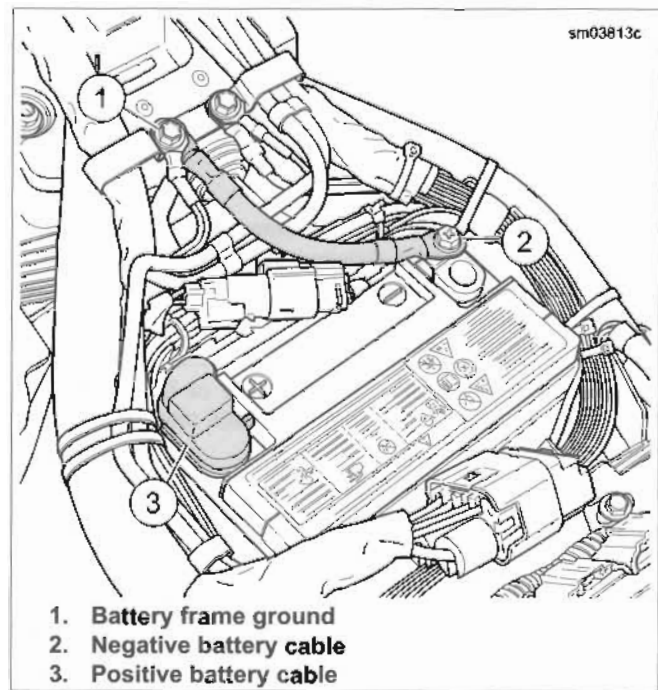

Figure 1-53. Battery Connections
- See Figure 1-53. Install battery. Tighten positive battery terminal fastener to 60-72 in-lbs (6.8-8.1 Nm).
- Install negative battery cable at battery frame ground (1) before any accessory ground wires.
- Install negative battery cable (2) at battery. Tighten negative battery terminal fastener to 60-72 in-lbs (6.8-8.1 Nm).